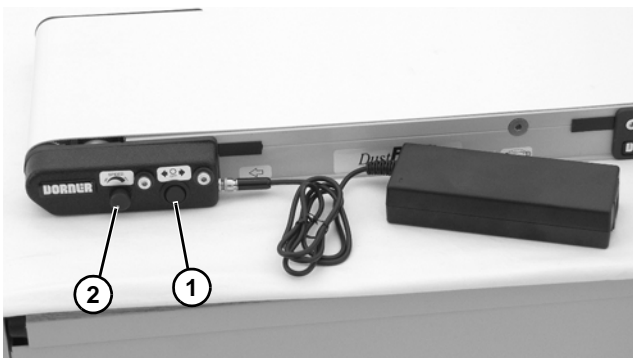

Figure 28
2. Select conveyor running direction with directional switch (Figure 28, item 1).
3. Select conveyor speed with speed control knob (Figure 28, item 2).